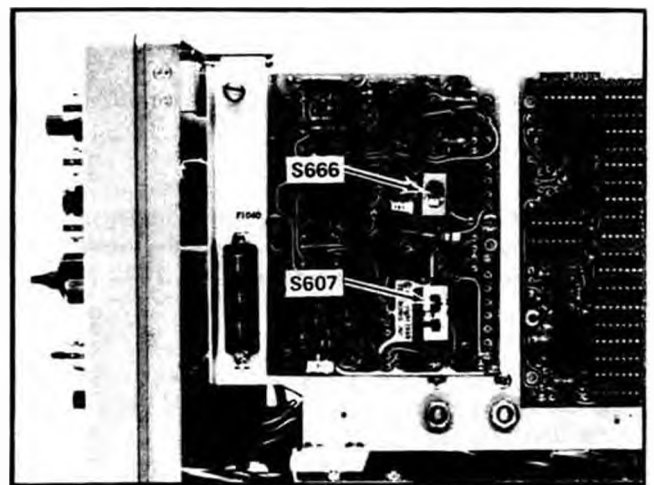

Fig. 5-24. Location of S666 and S607.
- c. Set the Swp A or B switch S666 (see Fig. 5-24) to the B position.
h. Change the Swp A or B switch S666 (see Fig. 5-24) to the A position.
b. Set the Gate A, B, or Dlyd switch S607 (see Fig. 5-24) to the A position.
e. Change the Gate A, B, or Dlyd switch S607 (see Fig. 5-24) to the B position.
g. Set the Gate A, B, or Dlyd switch S607 (see Fig. 5-24) to the Dlyd position.